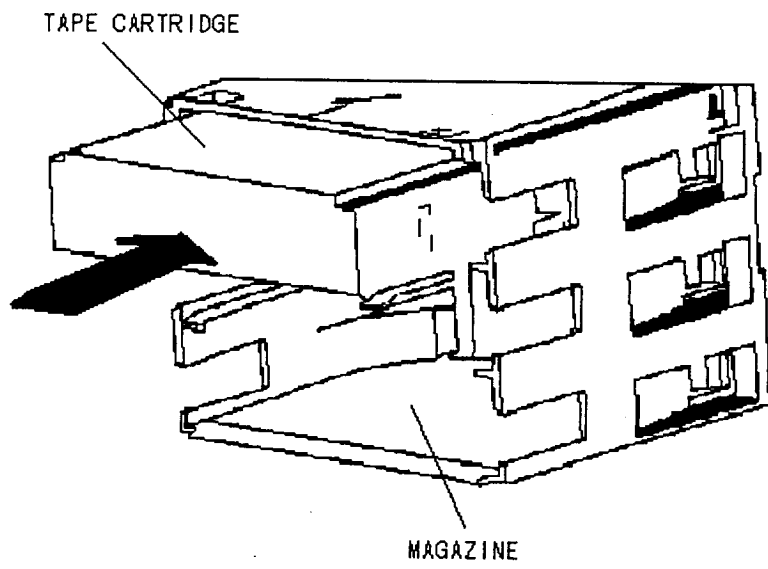

Figure 4-1
- (1) It is TAPE CARTRIDGE in MAGAZINE.(see figure 4-1)This MAGAZINE can insert TAPE in a maximum of 3 at one. If using 2 MAGAZINE(MAGAZINE-1/MAGAZINE-2), a maximum of 6 TAPE CARTRIDGE can be used.